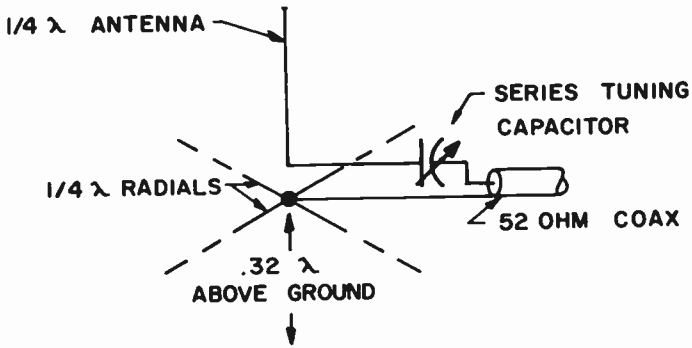

FIG. 17-11. A SERIES TUNED QUARTER WAVE ANTENNA.
**3 FEEDING A MARCONI ANTENNA.** There are many ways in which a quarter-wave Marconi antenna can be fed. Fig. 17-11 indicates the series method of feeding a quarter-wave antenna.